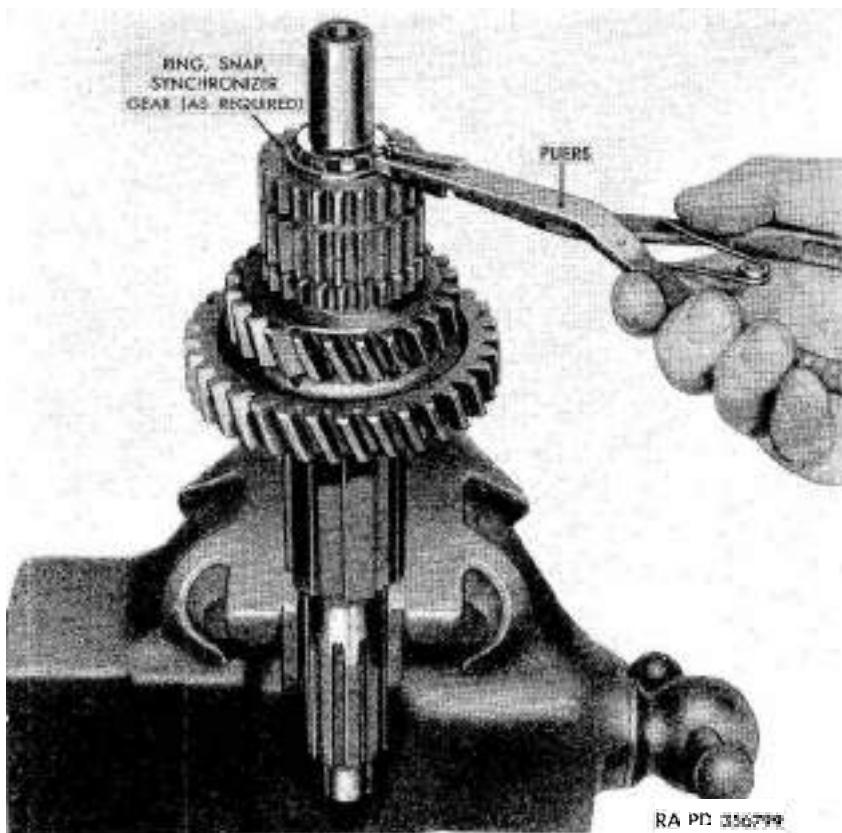

Figure 107. Removing synchronizer gear snap ring with snap ring removing pliers.
- (1) Remove main shaft pilot bearing spacer (BB) from forward end of shaft.
- (2) Remove first and second speed sliding gear (V) from main shaft, clamp main shaft assembly vertically between copper jaws of a vise, and remove synchronizer gear snap ring (M) with snap ring removing pliers (fig. 107).
c. Remove Gears, Bearings, and Locating Washers From Main Shaft. Remove synchronizer gear (N), third speed gear (P), third speed gear bushing-type bearing (Q), third speed gear locating washer (R) , second speed gear (T), second speed gear rollers (S), and second speed gear locating washer (U) from main shaft (CC).
d. Remove Main Shaft Oil Seal From Main Shaft Bearing Retainer. Drive main shaft oil seal (LL) from main shaft bearing retainer (**HH**) with a punch and hammer.